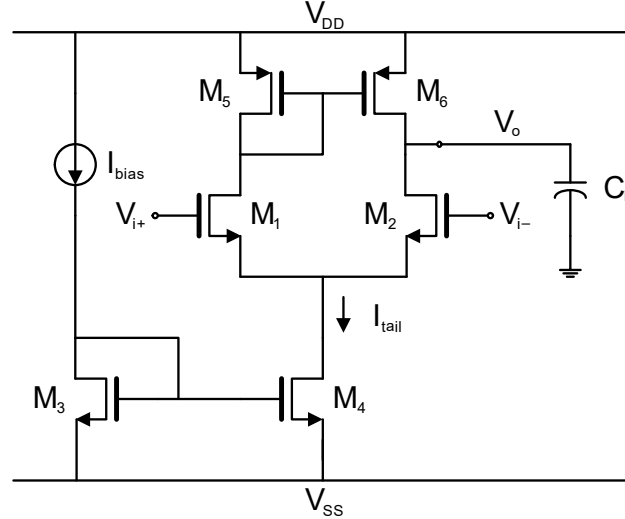

Figure 6-6: Simple Differential Amplifier
Figure 6-6 illustrates the simple differential amplifier. This circuit consists of a differential pair biased by a simple current mirror. The active load is a PMOS current mirror.
2. Design the simple differential amplifier in Figure 6-6 to obtain the following specifications: